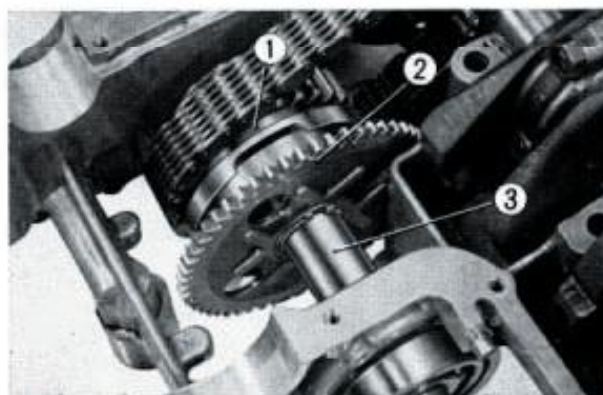
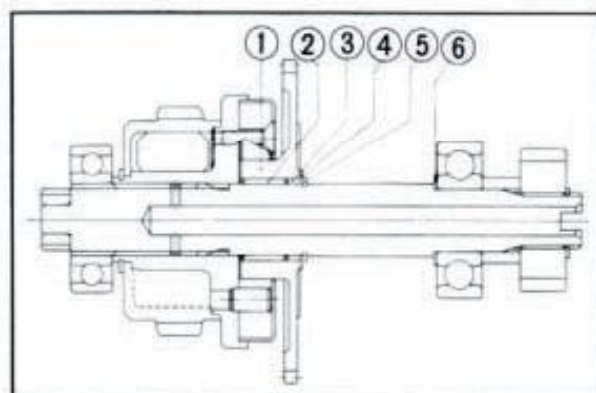

Fig. 150 ① Starting clutch
Fig. 165 ① Starting clutch gear
3. Position the starting clutch and starter gear as in Fig. 150, then drive the primary shaft in from the right to left. Exercise care in the needle bearing assembly sequence shown in Fig. 165.